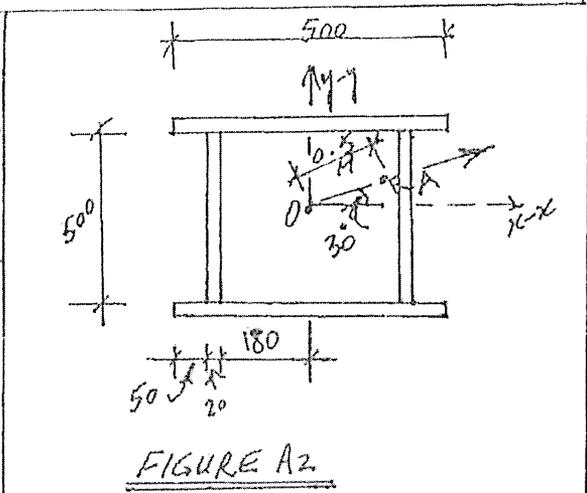

FIGURE A2
- A2. Figure A2 shows a built-up steel cross-section. It is fabricated from 20-mm G40.21-M350W steel plates. Determine the section moments of resistance about the two centroidal axes x-x and y-y.
- A3. The cross-section in Figure A2 is used as a column in a one-storey industrial building. The base of the column is fixed to the foundation and its top can be assumed to be translation free. The column is 6 m high and subjected to a vertical load  $P_r$ , applied at A, a distance of 0.5 m from the centre O, and along axis OA. Calculate the maximum factored load  $P_r$  the column can carry.